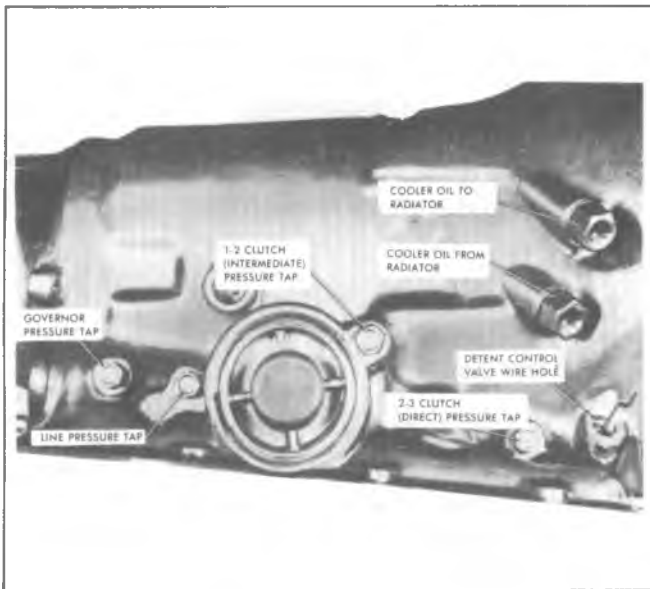

Fig. 7A-10—Pressure Tap Locations
1. Install line Pressure Gage, to tap location shown in Fig. 7A-10.